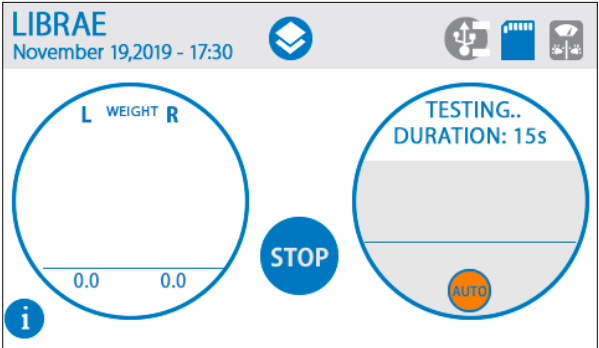

Figure 4.6.3 - Autostart is waiting for the minimum weight. AUTO icon is ORANGE.
4. START the experiment (Figure 4.6.3);